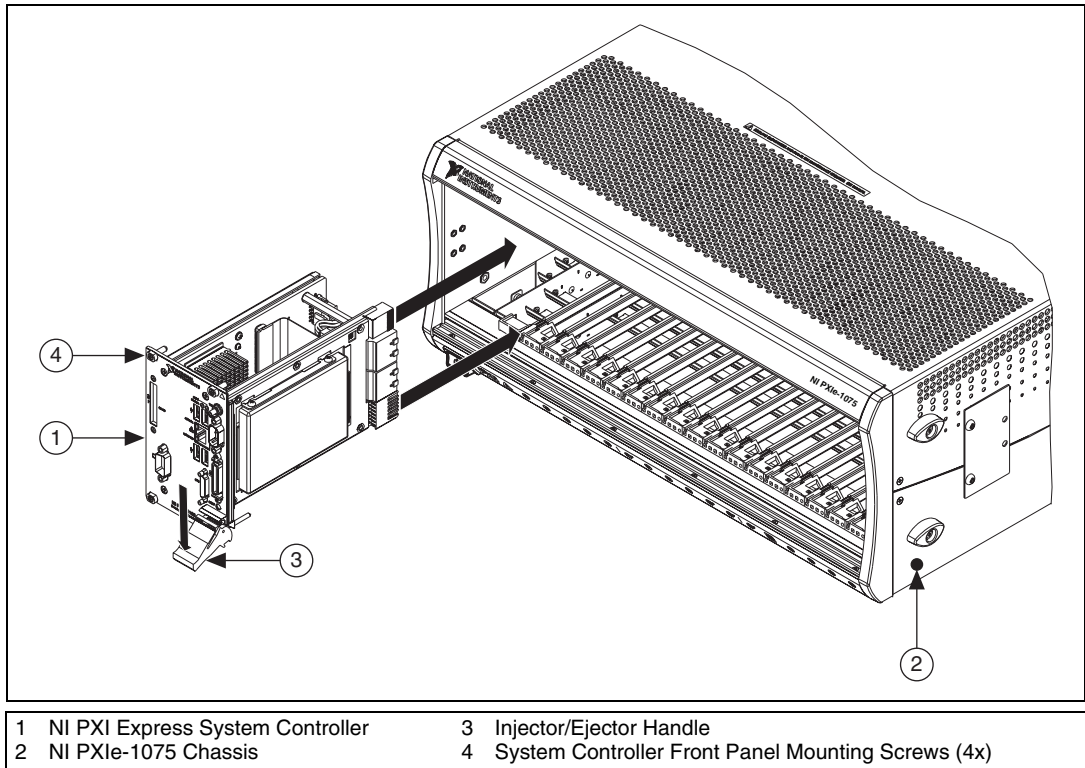

Figure 2-3. Installing a PXIe System Controller
3. Install the system controller into the system controller slot (slot 1, indicated by the red card guides) by first placing the system controller PCB into the front of the card guides (top and bottom). Slide the system controller to the rear of the chassis, making sure that the injector/ejector handle is pushed down as shown in Figure 2-3.